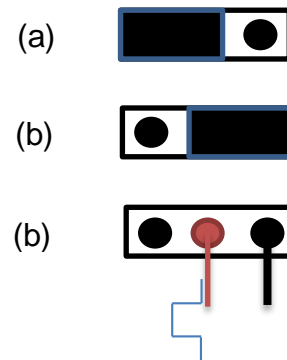

Figure 2. EY1602SI Enable jumper conditions
- 5) **EN (JP9)** - The EY1602SI features an enable pin (EN). When it is pulled low, the IC goes into shutdown mode. In this condition, the device draws less than 2µA. Figure 2 shows the conditions of the enable jumper. The device is enabled in Figure 1a which connects the EN pin to VIN through the resistor divider R10, and disabled in Figure 1b which connects EN pin to ground.